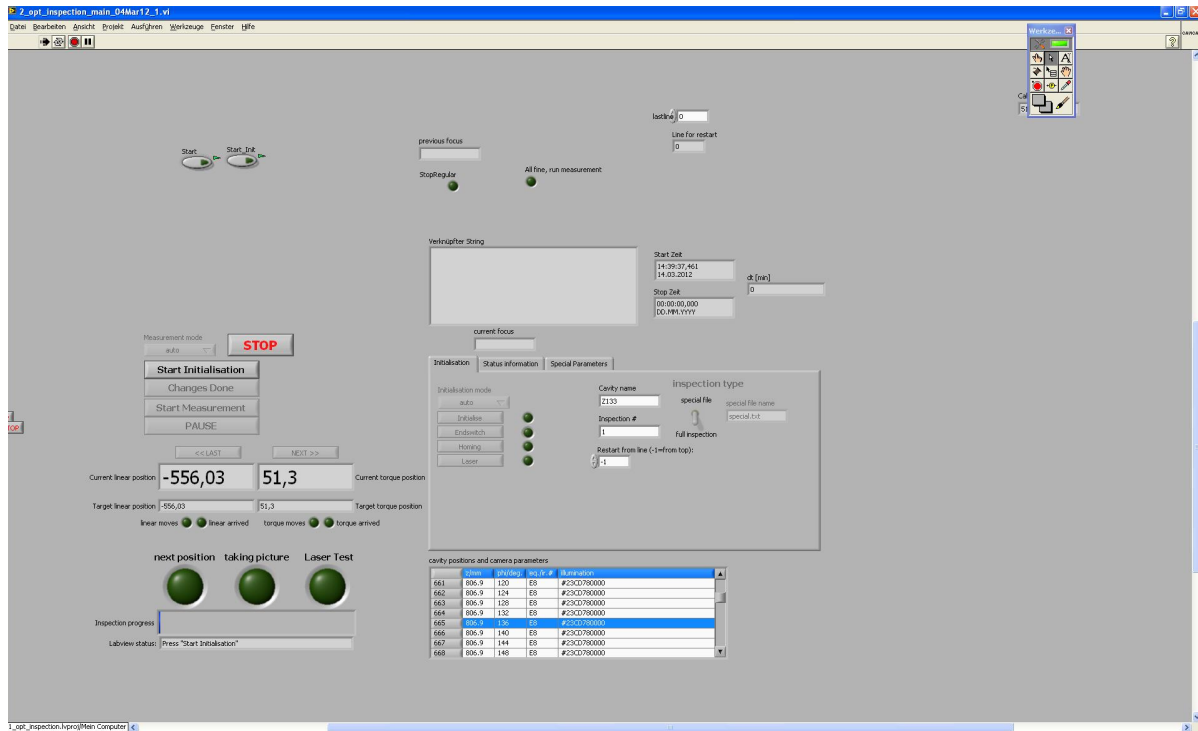

Figure 4: Screen shot of motor GUI in default view
- c) PC1R: double click on `2_opt_inspection_main` in `1_opt_inspection.lvproj`, the resulting motor GUI can be seen in figure 4, start it only after calibration.
Its graphical user interface runs on the right PC on the desk - PC1R and can be seen in figure 4. It is started via the program `1_opt_inspection_main` as described in section 2.2 and controls the movement of linear and torque motor.